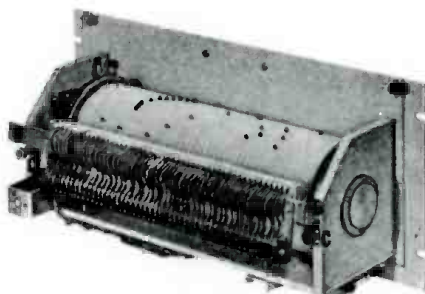
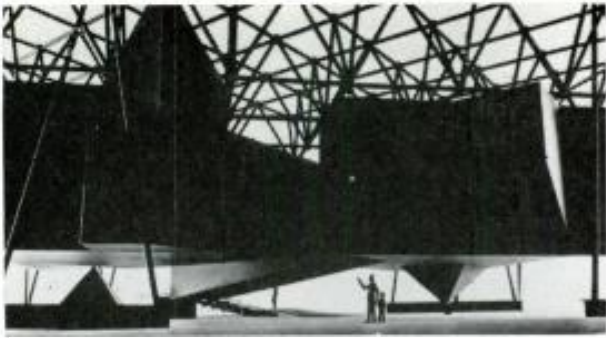
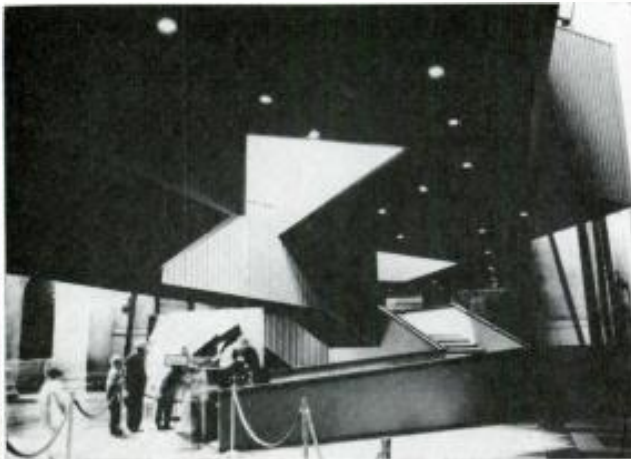

Figure 2. The drum programmer described in the text. Each of the contact pegs may be positioned as needed by individual requirements.
Figure 2. This Takanaka Truss supports the completely suspended exhibit described in the text. (The illustration is actually of a scale model of the truss.)
Figure 3. The exhibit entrance showing the steel support beams.
2. 24-volt d.c. pulses control the programmer. The programmer may be made to manually rotate one step by pushing the telephone key (SK 1 in FIGURE 3) into a right-hand position, or not to react on an external pulse by pushing the key into the left-hand position. When SK 2 is pressed the drum turns step-by-step as far as the track with stop peg. The drum can be started again by pushing SK 1 to the right. For changes of program, the drums are readily exchangeable.
Figure 3. This schematic shows the operation of the drum programmer illustrated in Figure 2. The operation of SK 1 and 2 are described in the text. The extended switch on the right is the contacts of the drum.
Can Man Survive? took two years to complete and cost over a half-million dollars. Because of the size and weight of the display, the entire exhibit is suspended from a Takanaka Truss, a computer-designed open framework (FIGURE 2) supported by steel structure mounted around the floor of the exhibit hall. This is the first use of this concept in this country and has only been applied to a few structures in Japan. The architectural construction of the entire exhibit (FIGURE 3) is in keeping with modern concepts, and provides an area of four thousand square feet through which the visitors (four million are expected during the two years the exhibit will be open) will walk and experience the message being presented.